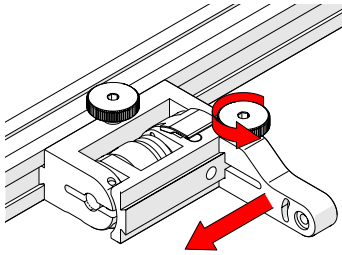

Fig. 96 - Position swing arm
5. Loosen the swing arm knob and slide the swing arm to the opposite end of the probe holder bracket (*Fig. 96*) or the preferred position. Tighten the swing arm knob.